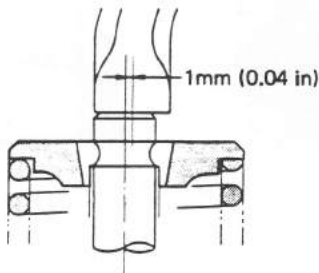

Fig. 130
- e. Place ten cylinder head holding nuts and adjust the EX rocker arm supporter so that the center of the valve stem is 0.04 in. (1 mm) shifted from that of the rocker arm as shown in Fig. 130
Note: Fig. 130 shows the EX valve rotation mechanism, and the center of the valve stem is 0.04 in. (1 mm) shifted from that of the arm. There is a clearance of 0.02 in. (0.5 mm). While the valve is working, the EX valve rotates slowly. This helps clearing away foreign matters between the valve seat and the valve face, and prevents excessive abrasion of the valve face and valve seat and lengthen the valve durability.